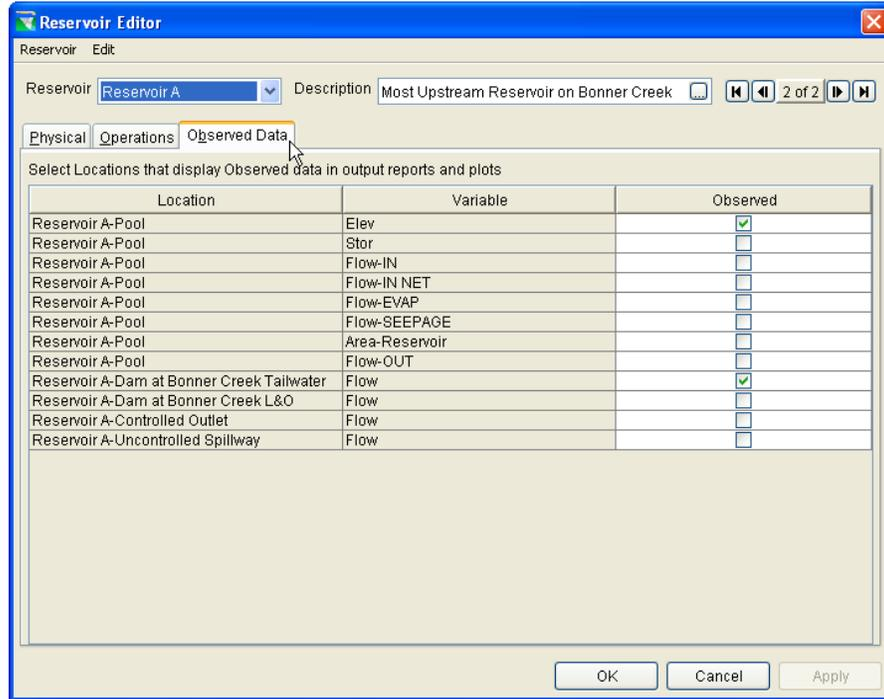

Figure 26. Observed Data Tab
c. The **Observed Data** tab is used to indicate that observed data is available for comparison purposes [Section 10.23]. If the **Observed** box is “checked” in the table (as shown in Figure 26), then there will be a corresponding entry in the Observed Time-Series mapping table when an Alternative is created [Section 13.9].